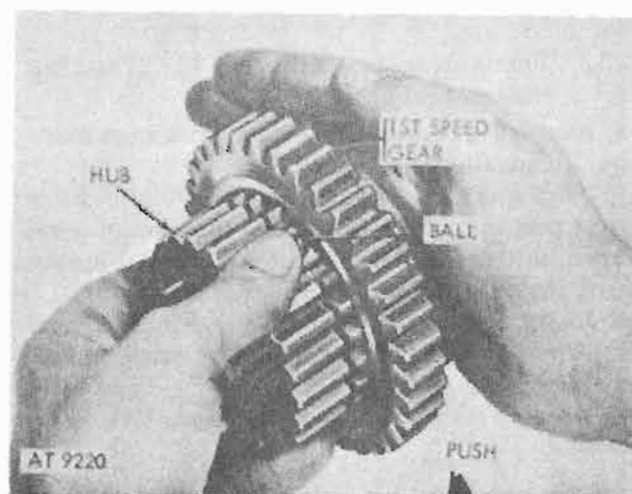

Figure 8-87. Installing first speed gear on hub assembly.
e. Position balls in detent bores on top of springs, and then assemble by pushing first speed gear over detent balls (fig. 8-87).